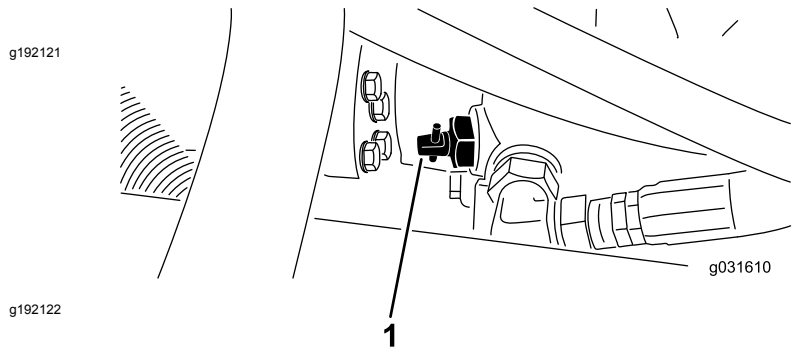

Figure 31
1. Locate the bypass valve on the pump (Figure 31) and loosen it by rotating 90° (1/4 of a turn).